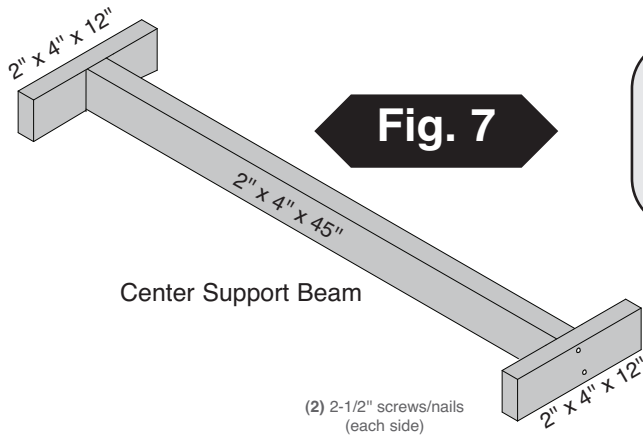

Fig. 7
1. Construct center support beam following the instructions in **(Fig. 7)**.